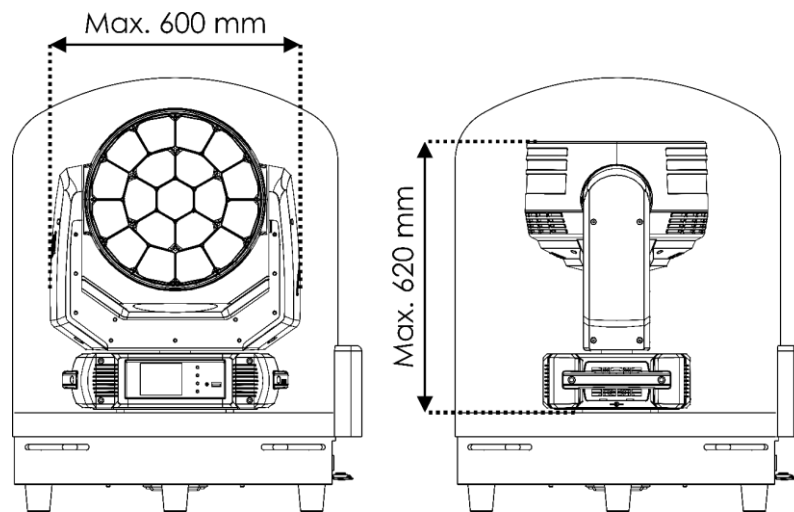

Fig. 15
- a maximum height of 62 cm (in combination with the Cylindrical Sleeve for Rain Dome 60 (71321)). See Fig. 15 on page 15 for more information.